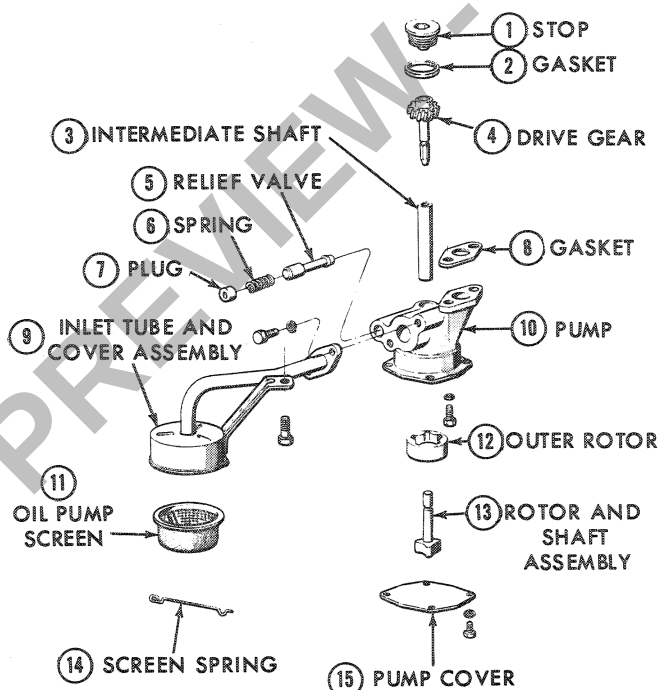

Figure 31
2. Remove the four cap screws and remove the pump cover, Figure 31. Remove the rotor and shaft assembly and the outer rotor.
3. Insert a self-tapping screw of the proper diameter into the hole in the relief valve plug and pull the plug out of the chamber. Remove the spring and relief valve, Figure 31.
The oil pump assembly is shown in Figure 31.